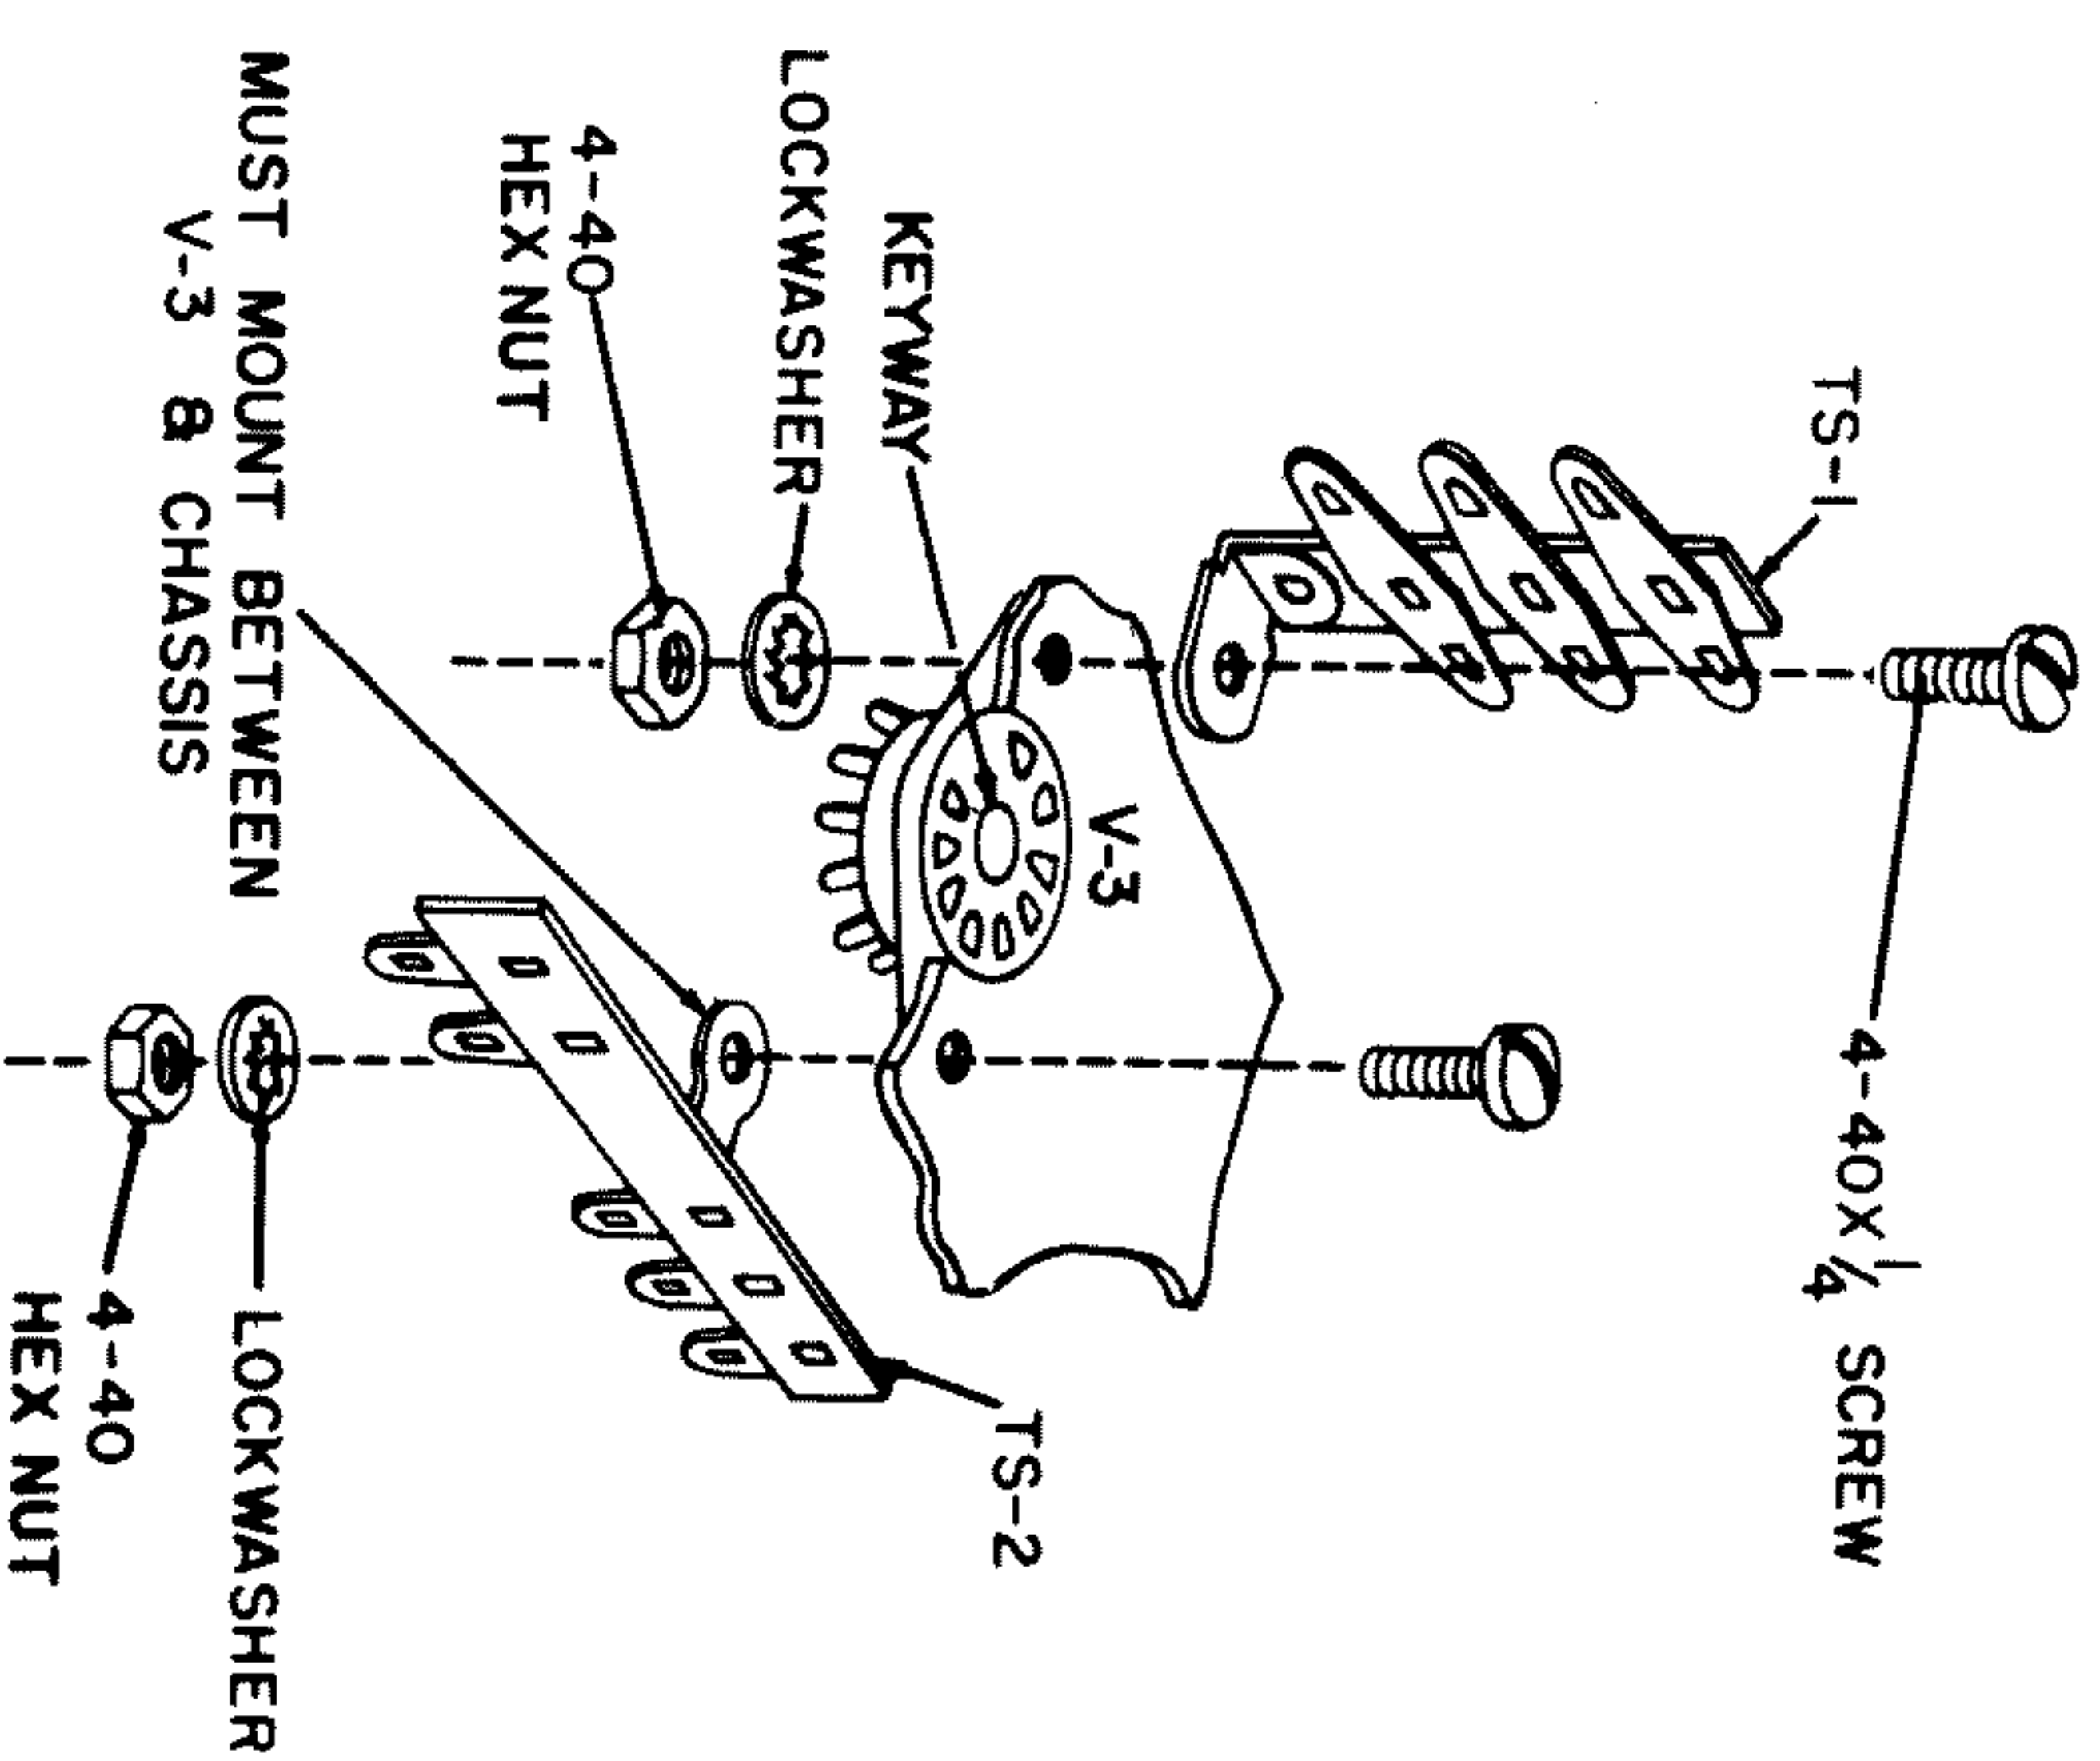

FIGURE 4
- ☒ 9-pin tube socket for V3; TS-1, 3-terminal strip; TS-2, 5-terminal strip. Position the tube socket with the keyway as shown. Position TS-2 between the tube socket and chassis. Fasten these parts with a 4-40 $\times$ $\frac{1}{4}$ " screw, lockwasher, and nut. See Figure 4. Mount TS-1 to the top of the chassis. Insert a 4-40 $\times$ $\frac{1}{4}$ " screw through the terminal strip and other side of tube socket. Fasten with a #4 lockwasher and nut. *a tube socket is shown in position between TS-1 and TS-2.*